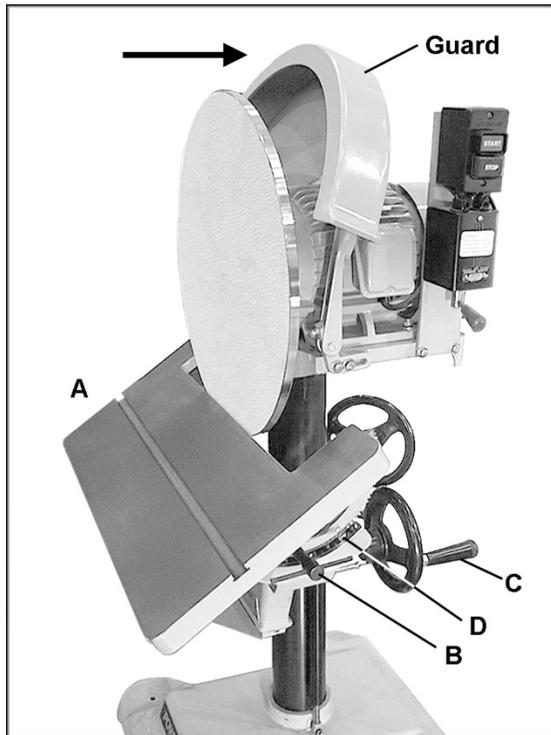

Figure 6
2. Lower the table all the way and push back the guard (refer to Figure 6).
The work table (A, Figure 6) can be tilted 30 degrees forward and 45 degrees backward.
1. Loosen the handle (B, Figure 6) and rotate the handwheel (C, Figure 6) clockwise to tilt table backward, and counterclockwise to tilt table forward. The pointer on the trunnion scale (D, Figure 6) indicates the angle.
2. When table is positioned, re-tighten handle (B, Figure 6).
1. Lower the table as far as possible and push back the guard. See Figure 6.